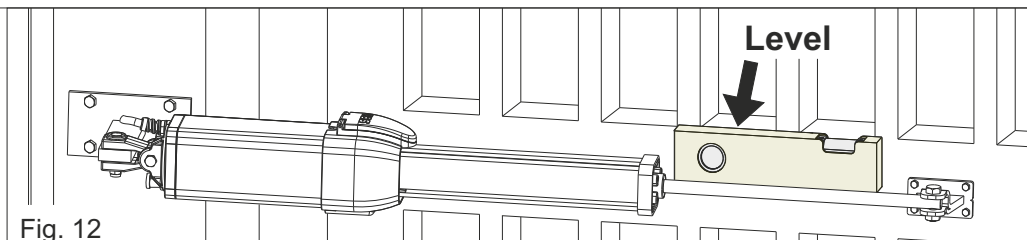

Fig. 12
- 2 - For a proper operation, it is important to place as the operator as the front and rear brackets in a perfectly horizontal position with the help of a level, as shown in Fig. 12
The rear bracket must be positioned so that the operator is perfectly horizontal (Fig. 12)